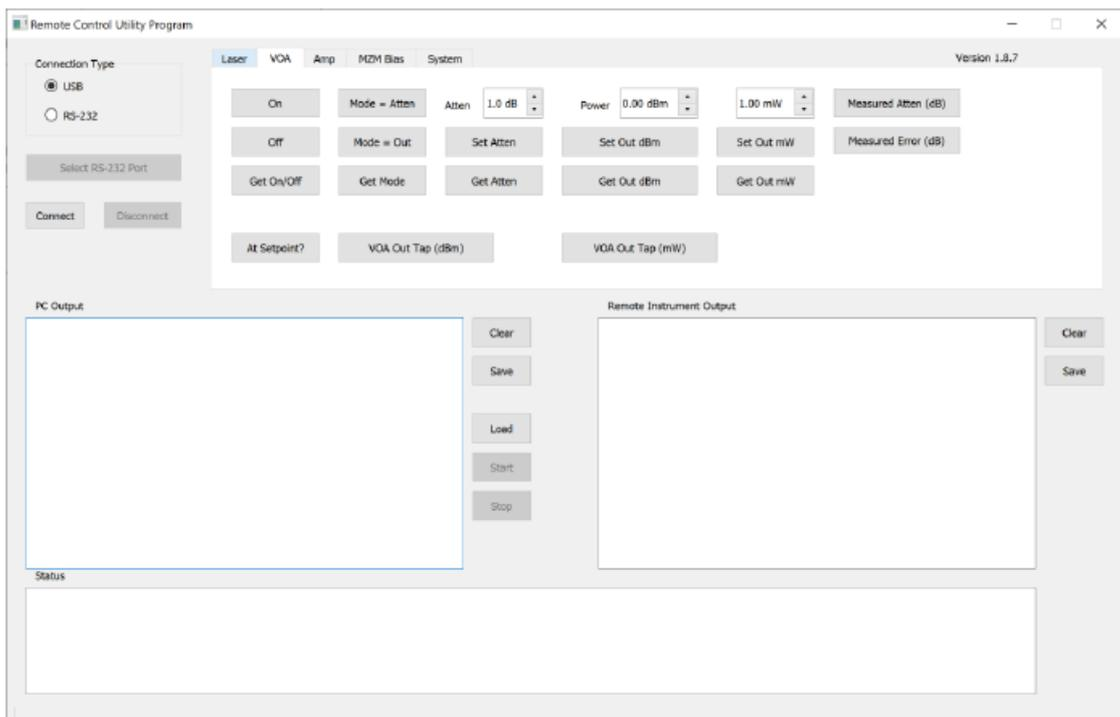

Figure 10 VOA Tab
- The functions in the VOA tab (Figure 10) correspond to the commands described in Section 2.6: Variable Optical Attenuator (VOA) Commands.